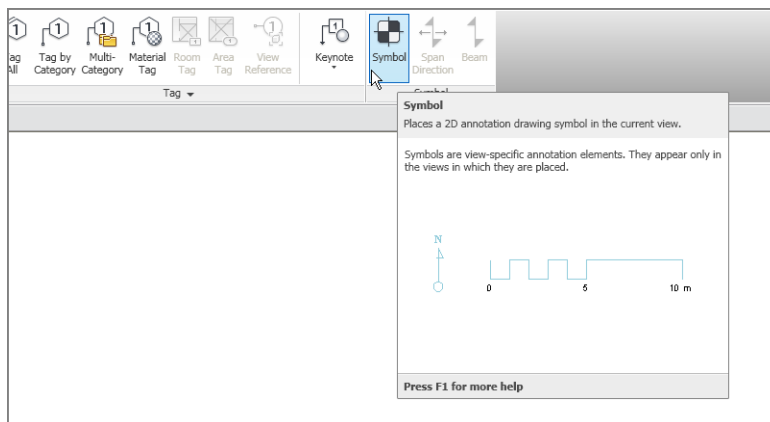

FIGURE 11.45: Clicking the Symbol button on the Annotate tab
5. On the Symbol panel of the Annotate tab, click the Symbol button, as shown in Figure 11.45.